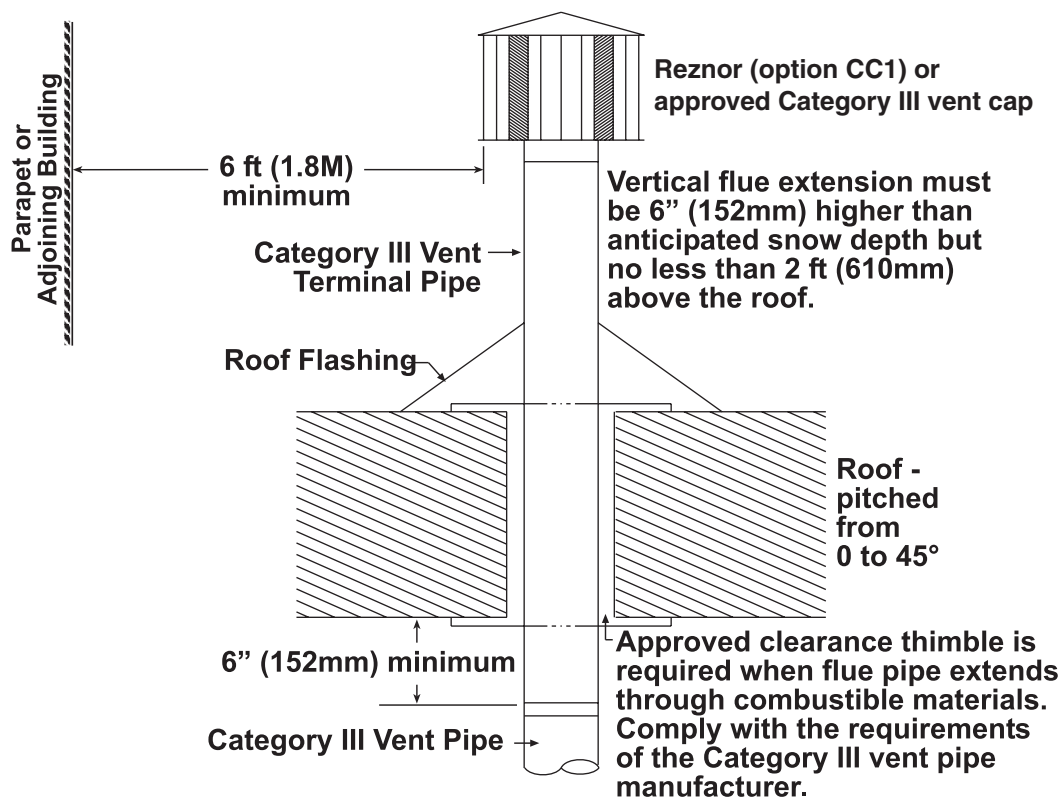

Figure 19. Vertical Vent Terminal (Residential Installations)
- c. Refer to instructions shown in Figure 19 to install vertical vent terminal.